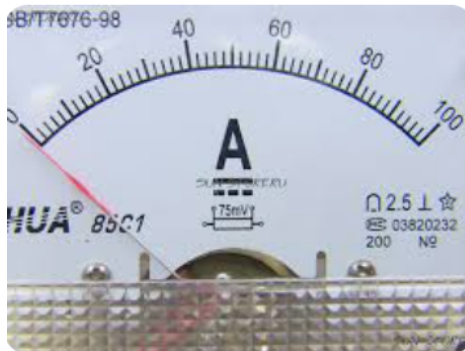

Fig. 6.2. An ammeter
3. In the example shown in Figure 6.2, the maximum value on the ammeter scale is 100 A, with 50 divisions, giving a scale division of 2 A.